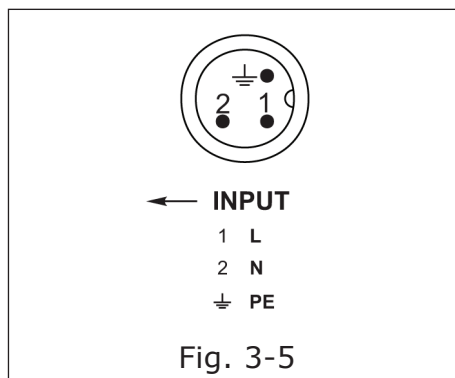

Fig. 3-5
- 6) Strip back the mains cable wires to the appropriate lengths and connect them to the **Input** connector terminals (Fig. 3-5) as per the wiring schedule below: